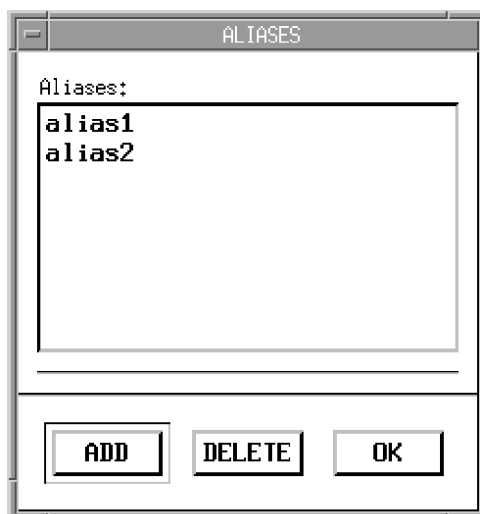

Figure 24. ALIASES Window
STEP 5: Add aliases for a machine, if desired. Click on the ALIASES button in the ADD MACHINE window to open the ALIASES window (Figure 24).